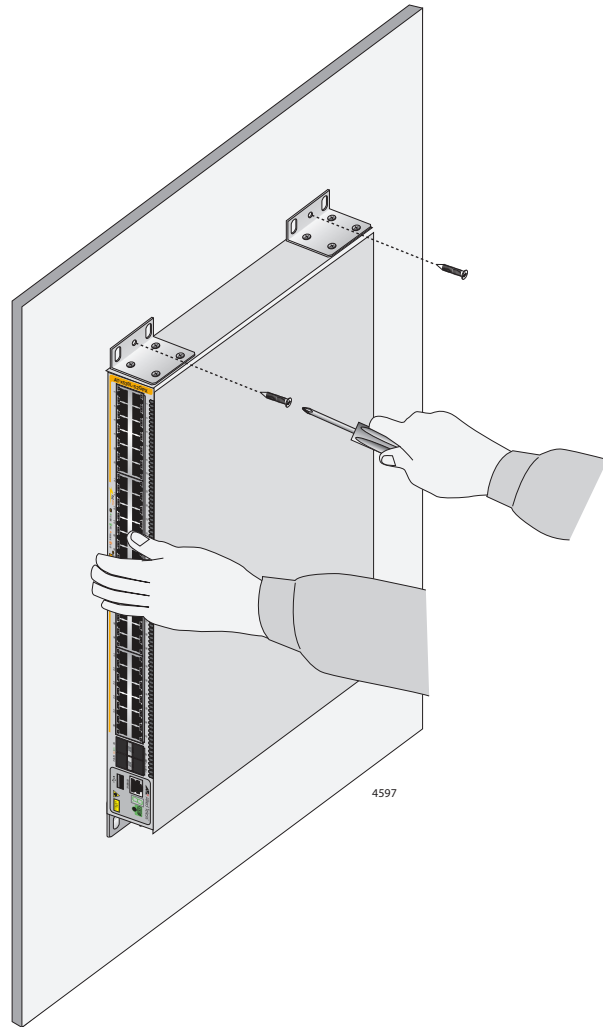

Figure 59. Installing the Switch on a Concrete Wall
7. Have another person hold the switch at the selected wall location while you secure it to the wall with the M4x32mm screws provided. Refer to Figure 59.